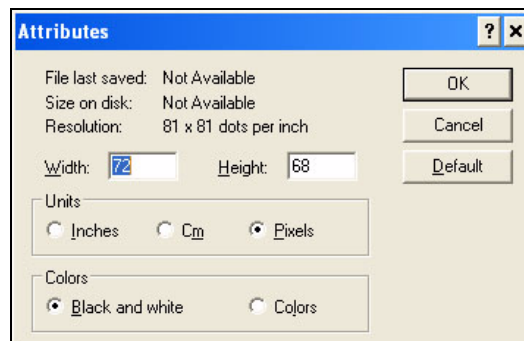

Figure 5-59: Image Attributes
- c. Select the colour format of the image as *Black and White*. (See Figure 5-59 on page 5-59)